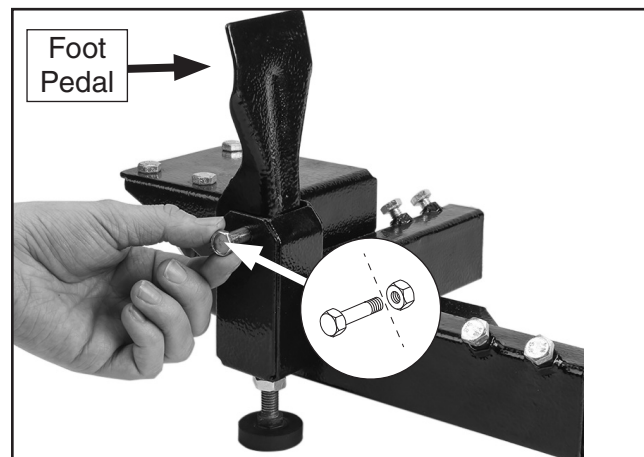

Figure 6. Attaching foot pedals.
3. Attach foot pedal to each front corner bracket using (1) M8-1.25 x 52 shoulder bolt and (1) M8-1.25 lock nut (see **Figure 6**).